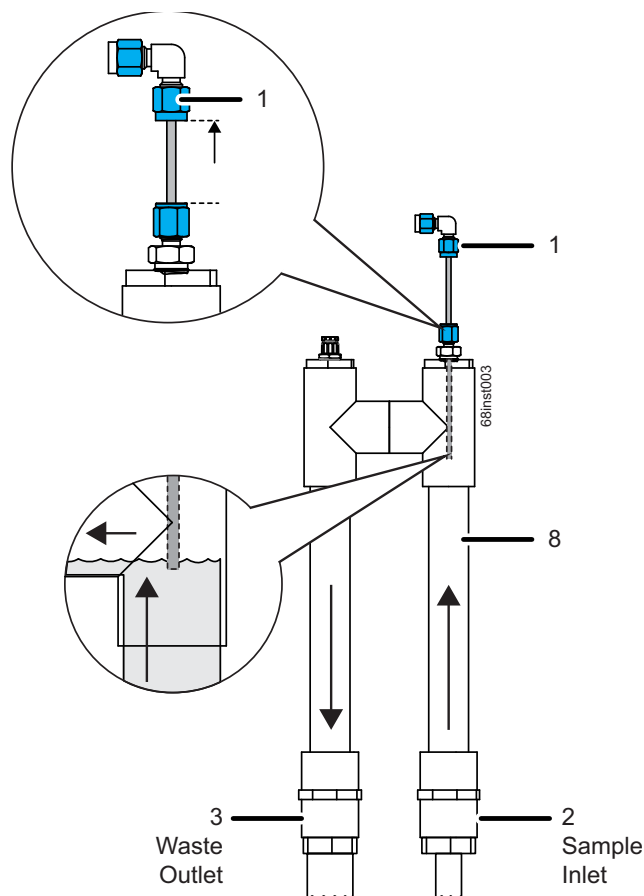

Figure 34: Overflow Mode — Adjusting the Sipper Tube Height
18. Set the needle height (**1**) of the internal sipper tube (needle). Test the proper adjustment of the sipper tube by performing a sample flush and verifying that no bubbles are pulled through the inlet tubing. Ensure it is installed at the highest point possible before drawing air bubbles. See Figure 34.